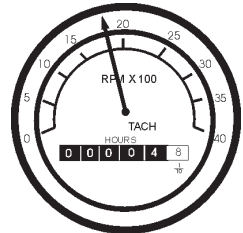

Figure 38. Engine Tachometer Gauge
10. The **tachometer gauge** (Figure 38) will indicate the speed of the engine when the generator is operating. Under normal operating conditions this speed is approximately 1800 RPM's.